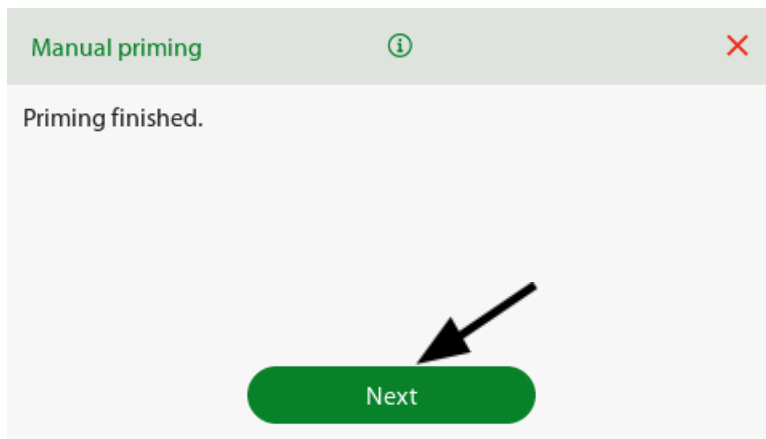

Figure 42
5. Click '**Next**' to confirm that the pipes have been cleaned (see Figure 42).